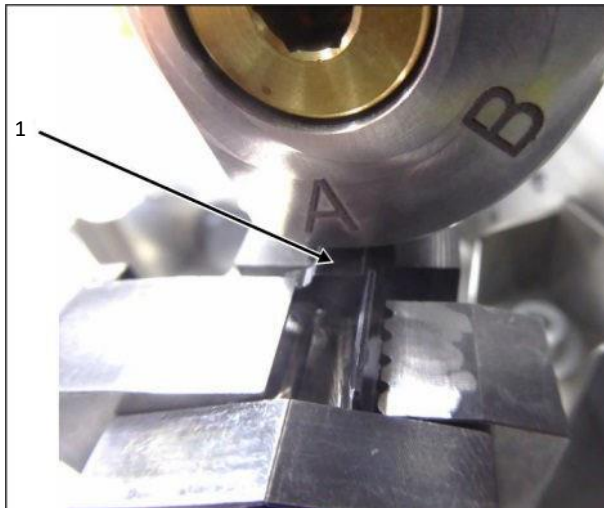

Fig. 18: Sleeve support table
- Pull the sleeve support table (fig. 18, item 1) forwards.